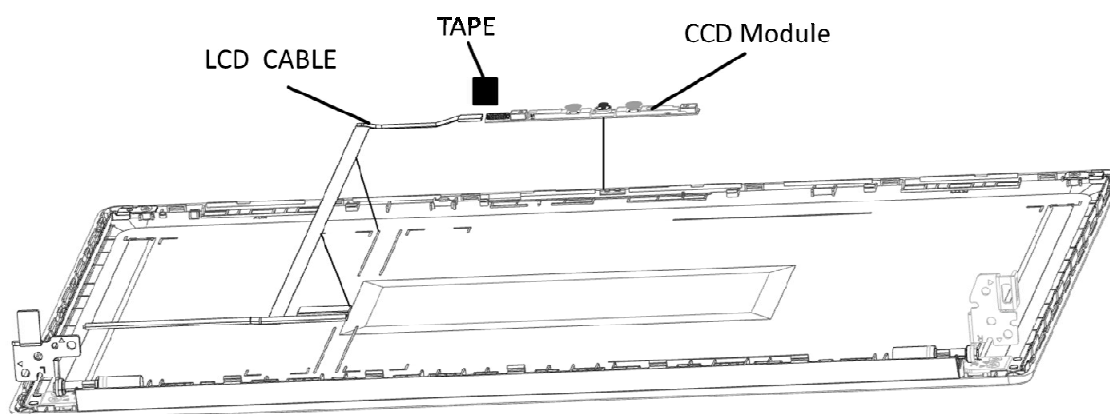

Figure 4-23 Removing the CCD Module
Remove the CCD Module according to the following procedures and Figure 4-23
Install the CCD Module according to the following procedures and Figure 4-23.
4. Route the LCD cables according to Figure 4-23, place the cable into the ditch and correct position. Avoid to pinching the cables.